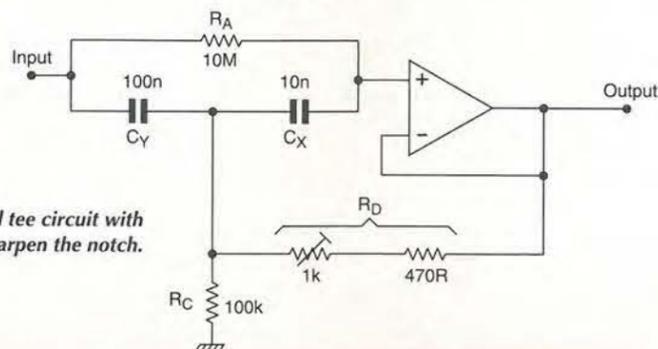

Fig. 13. A bridged tee circuit with feedback to sharpen the notch.
**A handy hum rejection filter...** As with the twin tee, feedback can be used to sharpen up the notch. A typical circuit, taken from reference 5, is shown in Fig. 13.